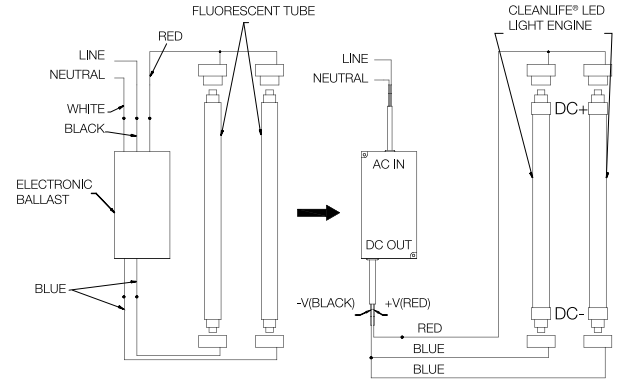

Figure 1—Common Installation Wiring
**8** Connect CLEANLIFE® approved SAM listed LED driver as shown in Figure 1. For most common installations, first connect the ground wire (if present) of the LED driver to a suitable location. Then connect the AC Line (black wire) to the AC Line (brown or blue wire) of the LED driver, and the AC Neutral (white wire) to the AC Neutral (white or blue wire) of the LED driver. Then connect the wire going to one side of the set of sockets (red wire) to the +VDC (red wire) of the LED driver, and the wires of the opposing sockets (blue wires) to the -VDC (black wire) of the LED driver.
NOTE: Figure 1 shows a two lamp system. For a system with more lamps, connect one side of the set of sockets to +VDC and the opposing sockets to -VDC. For assistance regarding installation of CLEANLIFE® LED Light Engine Kits for Sign Applications in a sign system, please contact your CLEANLIFE® representative.